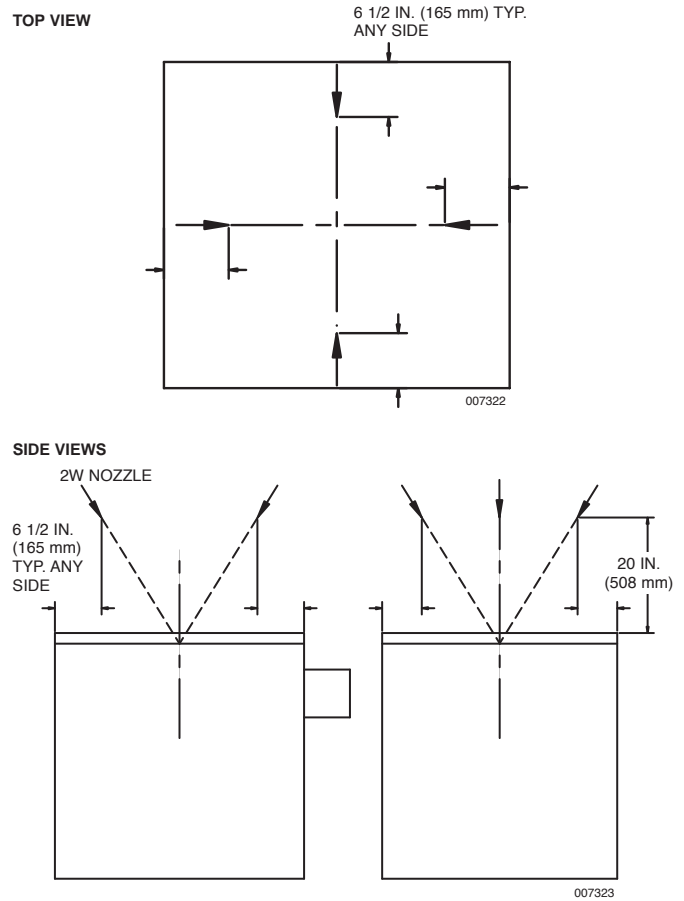

FIGURE 4-92
- **Nozzle Height:** 20 in. (508 mm) above top of converter. See Figure 4-92.
- **Nozzle Location:** Centered 6 1/2 in. (165 mm) back from any edge of the appliance. See Figure 4-92.
- **Nozzle Aiming Point:** Aimed at center of opening. See Figure 4-92.